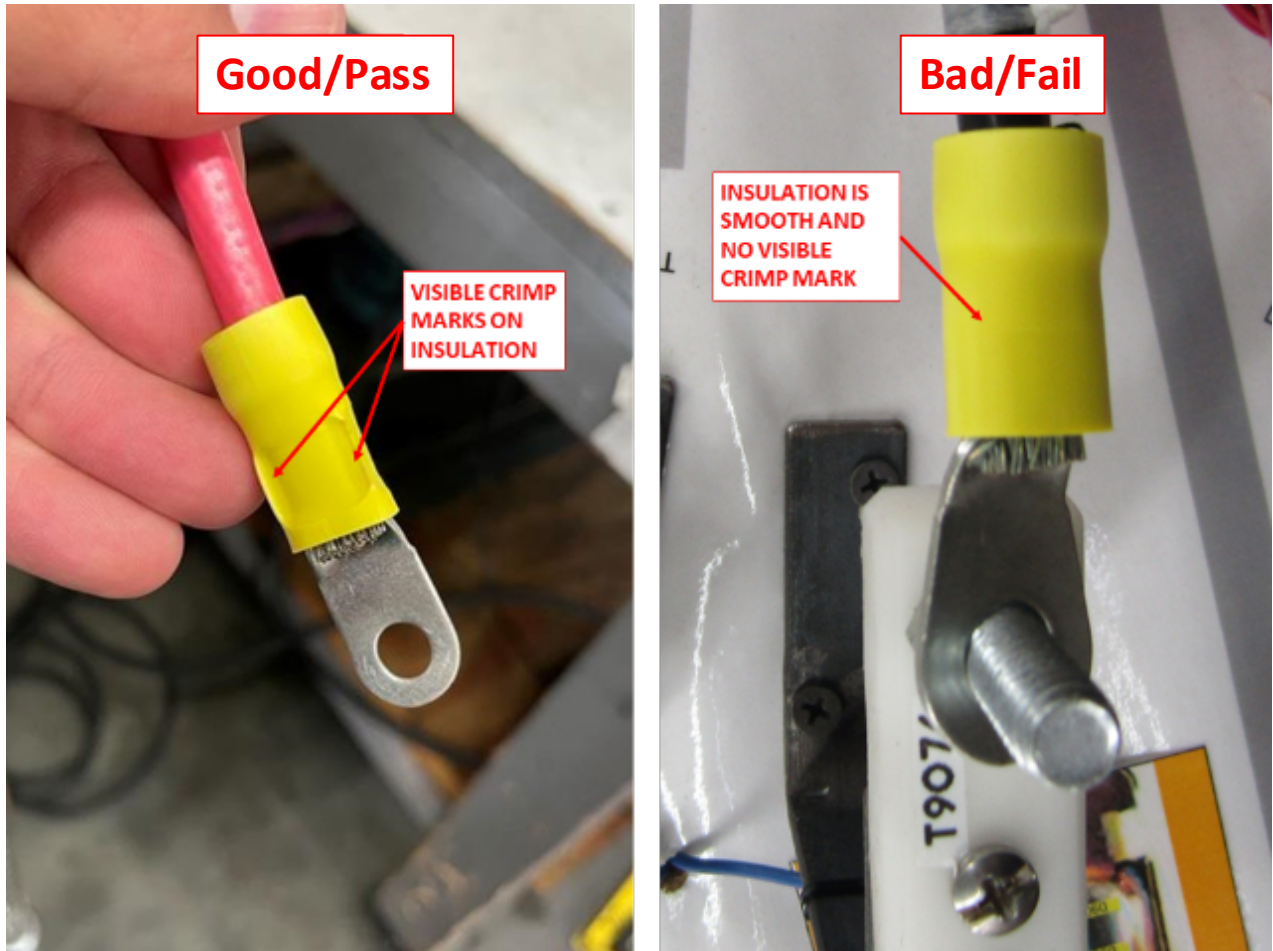

Figure 2 Terminal Inspection Criteria (Good/Pass and Bad/Fail)
**Inspection criteria (See Figure 2)**